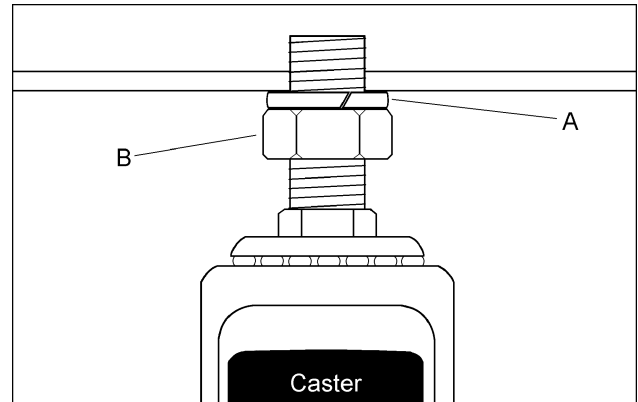

Fig. 1
1. Install *four* casters to the under side of the base as pictured in Fig. 1. Thread the hex nut (B, Fig. 1) onto the caster shaft. Then slide the lock washer (A, Fig. 1) over the caster shaft. Thread the caster shaft into the threaded hole on the underside of the base, turn until snug. Tighten the nut (B, Fig. 1) against the base with a 14mm wrench. This will give the caster proper clearance.